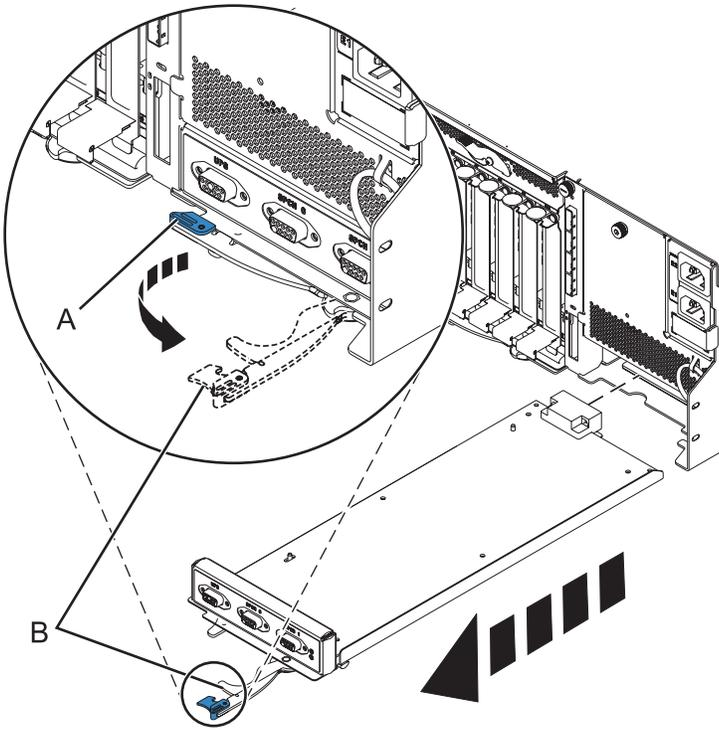

Figure 80. Remove the enclosure management controller
- b. Pinch the latch (A) to unlock the handle (B). See Figure 80 on page 102.